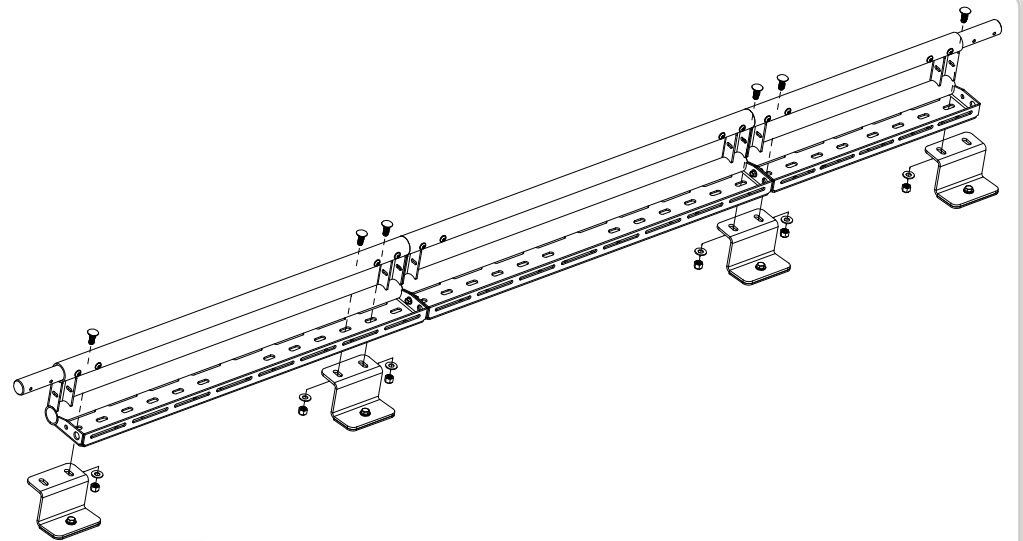

FIG 12
**5.1 Mount Side Rails to Van Rails:** With assistance, lift the **Side Rail Assembly** onto the roof. Align the **Side Rail Assembly** with the mounting holes of the **Foot Brackets** and secure loosely using **3/8-16" Carriage Bolts, Flat Washers and Nylon Locknuts** as shown in FIG 12+13.